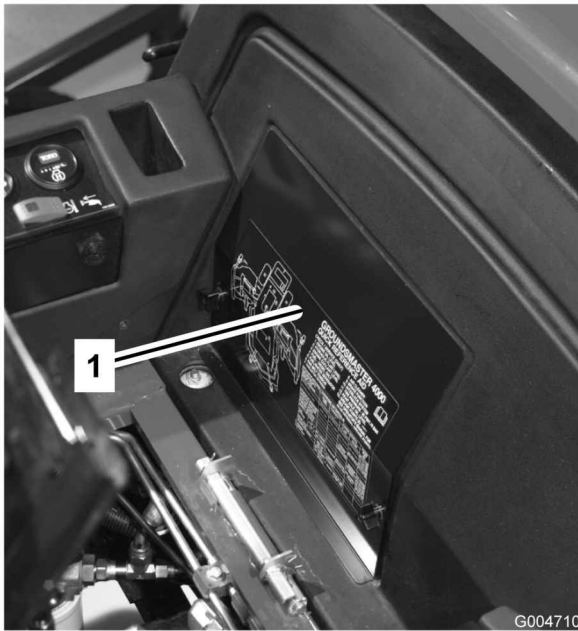

Figure 54
2. Remove the battery cover (Figure 54).